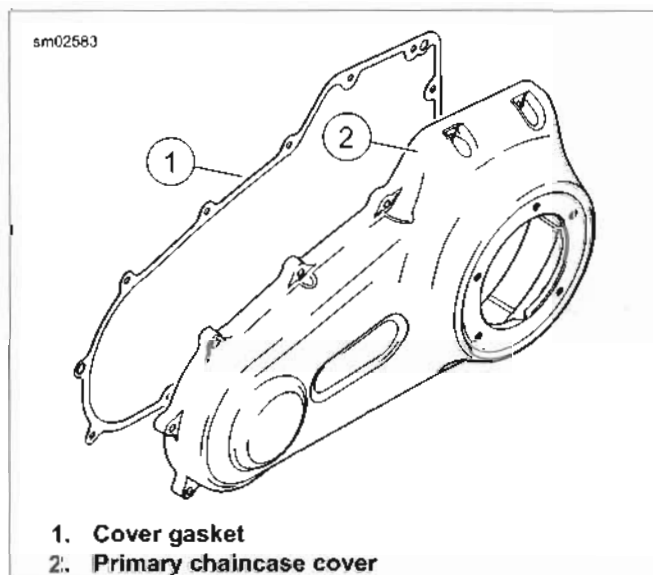

Figure 5-2. Primary Chaincase Cover Gasket
1. See Figure 5-2. Install **new** cover gasket (1).